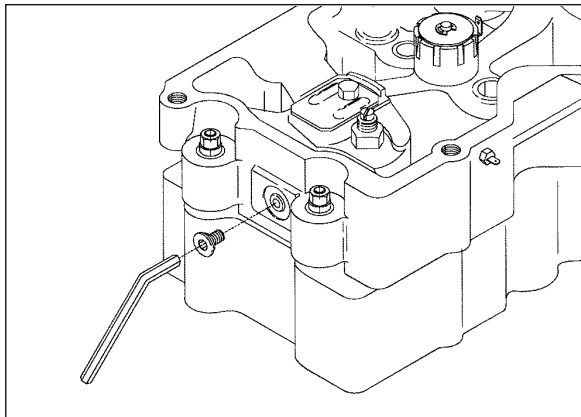

Figure 4A-2
4. Remove the plug from the rear engine brake housing as shown on figure 4A-2.